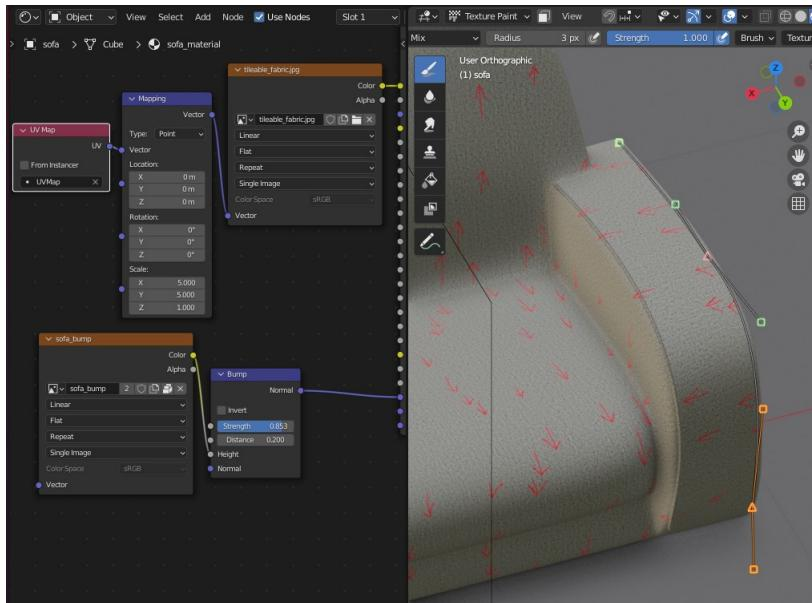

Figure 8-14 Scaling UV Maps for Different Textures in Shader Editor
This works fine so long as the UV map is only being used for a single purpose. But in this exercise it would be nice to also feed a normal map into the shader so that surface details, such as the piping along the edges, or minor creases, can be represented. The UV map that the normal texture uses must match the area of a single image otherwise the creases will be repeated all over the sofa in arbitrary locations. It would be possible to create a second UV map and feed that into the input of the texture node, but actually it's even easier to just use the default map but scale it up in the shader when it is being used by the base color texture. Figure 8-14 shows the node layout on the left
19. Ensure that the sofa_bump image texture node is selected then change back to texture painting. If the sofa_bump texture was not selected as the target you will draw onto the wrong image. As I mentioned above, drawing using the brush stroke set to Curve will help with smooth curves like the piping on the seams. Also, switch to orthographic view using the button under the camera view button, visible on the right of Figure 8-14. This will prevent long lines drawn on the 3D object being distorted by perspective and resulting in tapered lines on the 2D texture.